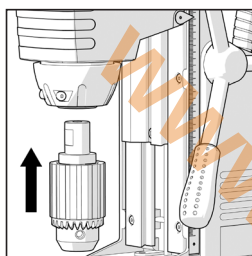

Fig. 11
- Align the two flats on the chuck adaptor with one of the screws in the spindle. **(Fig.11)**
(6) MAINTENANCE